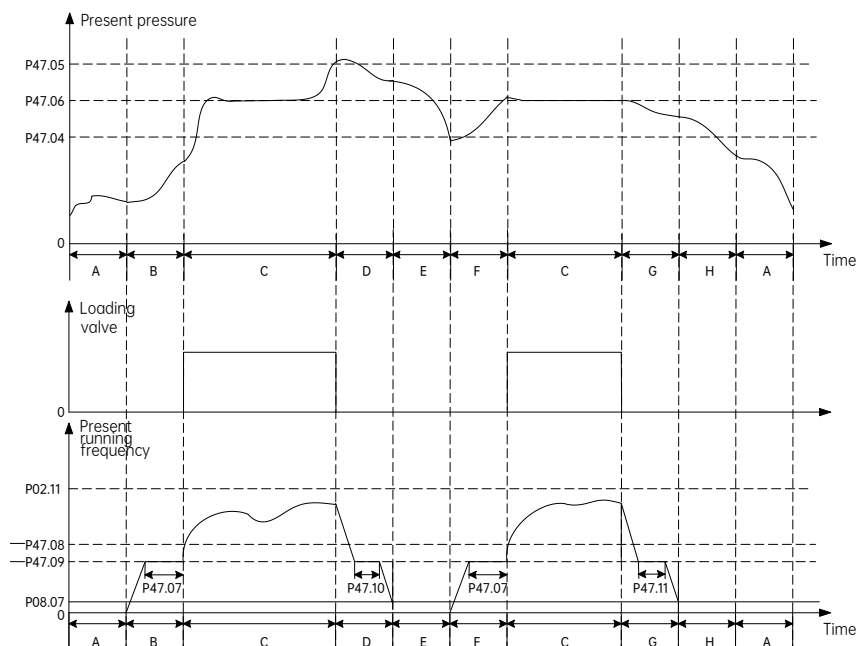

Figure 2-12 Running pressure/frequency control of the air compressor
(2) Control of the running pressure/frequency during air compressor operations is shown in Figure 2-12: